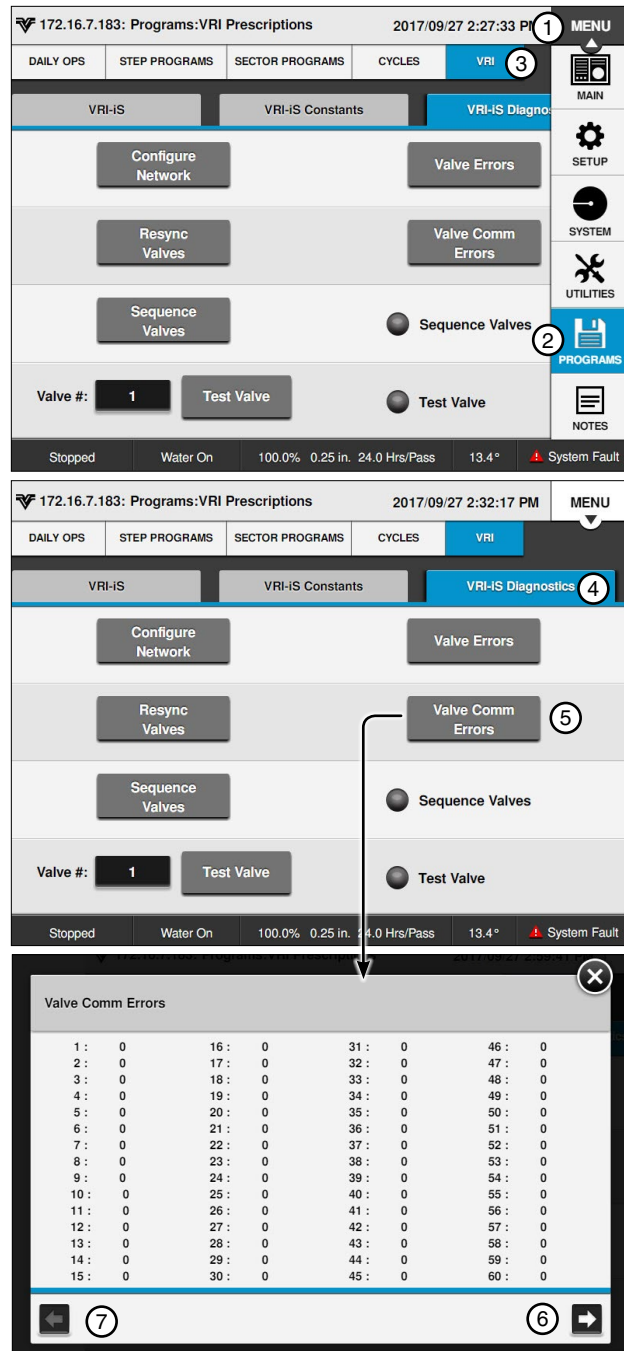

Figure 180-1 1. Menu
1. Push **Menu**, **Programs**, **VRI** and **VRI-iS Diagnostics** to display the VRI-iS diagnostics screen. Refer to Figure 180-1.